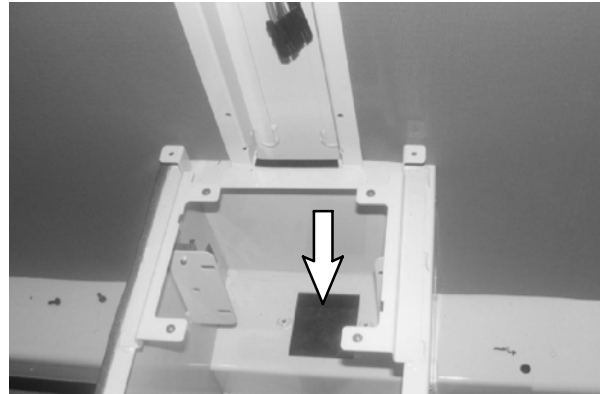

FIG. 9
14. Route the arrow stick cable assembly (2) down to the hole at the bottom of the cab. Use cable ties (13) to secure the arrow stick cable assembly to the wire harness. Refer to Fig. 9.